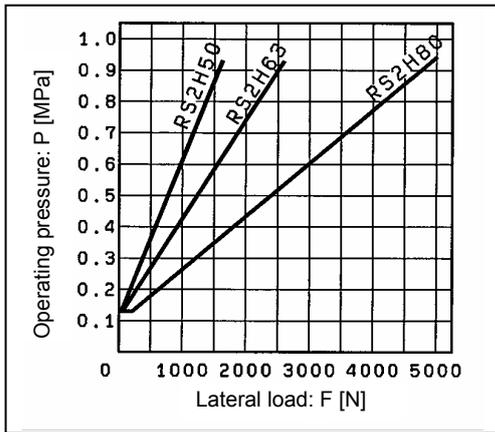

Figure-2-1. Lateral load and operating pressure
$F=776$ (N) at  $P=0.5$ (MPa) is found on Figure-2-1.